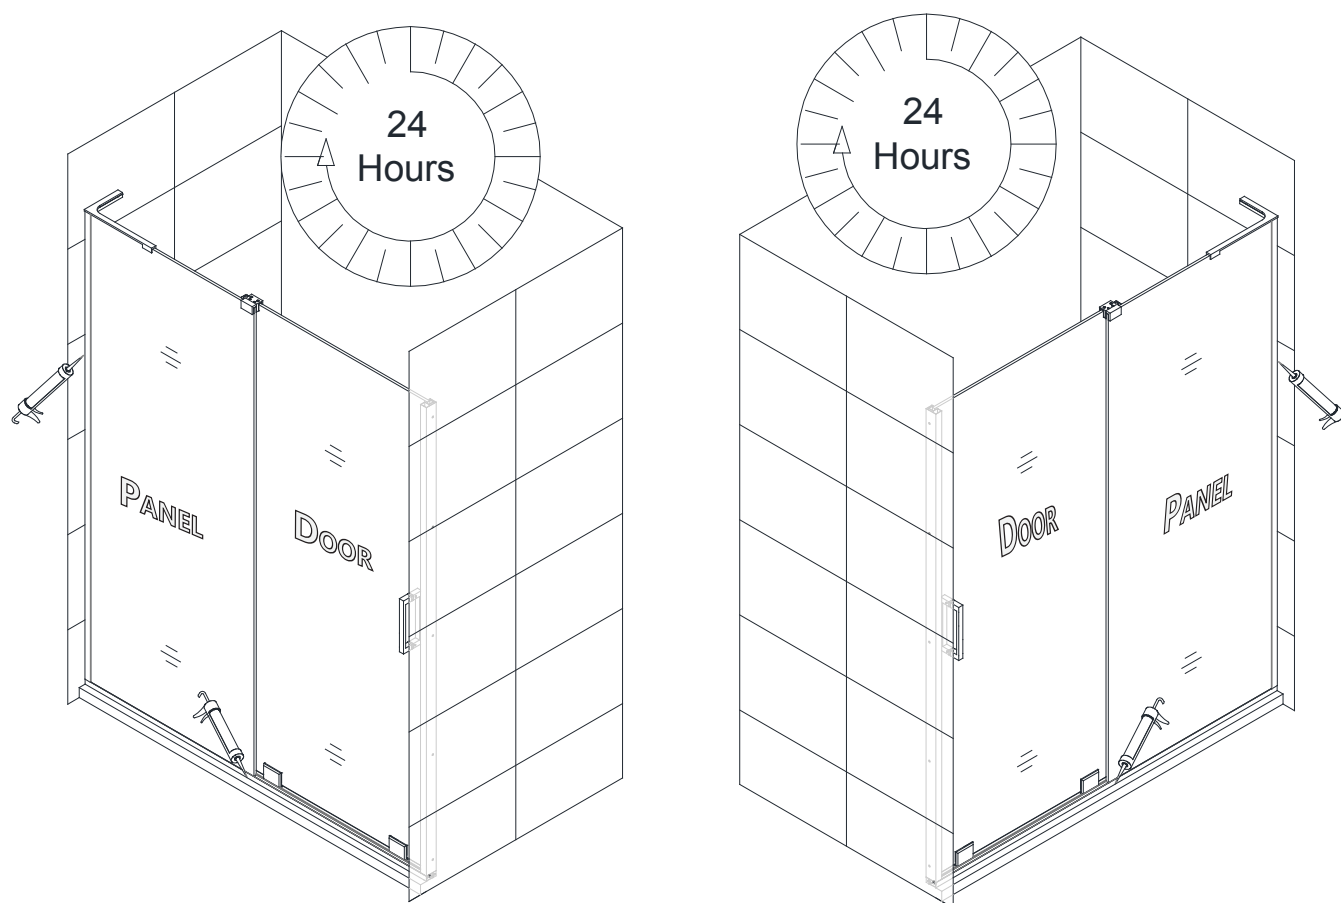

Fig 29
29. Apply a good quality, mildew-resistant silicone along both vertical channels and the bottom rail from inside the shower. **(Fig 29)**